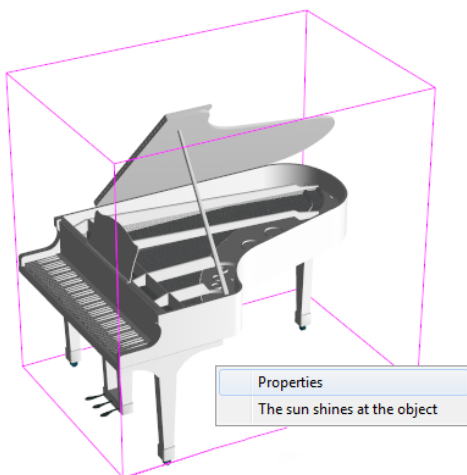

Fig. 165 – an object without textures in visualization – invoked context menu
- to do so, double click on the selected object with a left mouse button and then click the right button to develop a context menu, in which select the **Properties** position (Fig. 165);